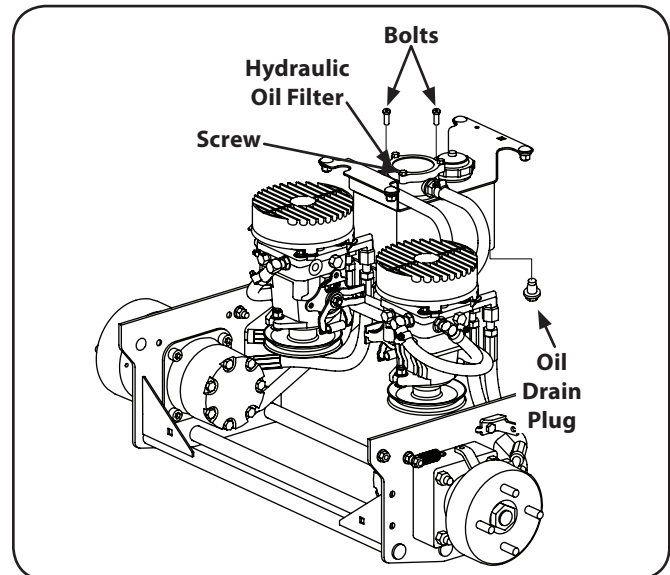

Figure 6-4
- Remove the two bolts securing the hydraulic filter and allow the hydraulic oil to drain. Remove the drain plug from the bottom of the hydraulic oil tank to drain. Replace the plug. See Fig. 6-4.
- Place a small pan under the pump motor frame. Remove fill oil cap from hydraulic reservoir for faster drainage. Remove nut caps and drain oil from both left and right pumps. Replace and retighten nuts. See Fig. 6-4.